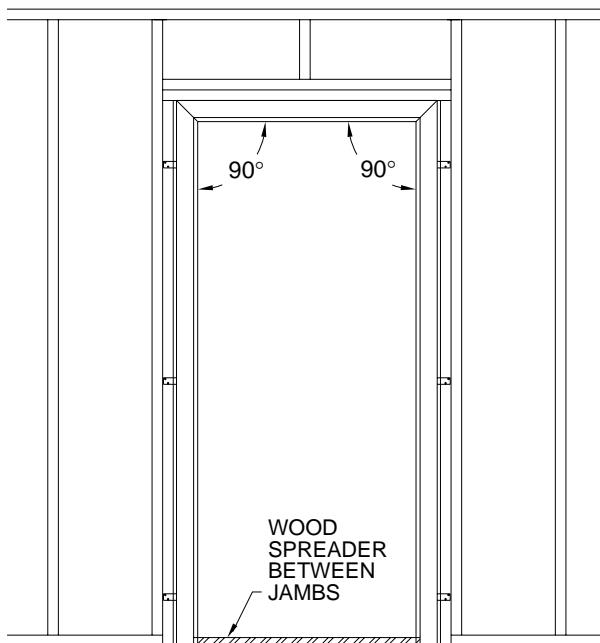

Figure 19 – Wood stud construction
3. Place frame in rough stud opening (see figure 19).